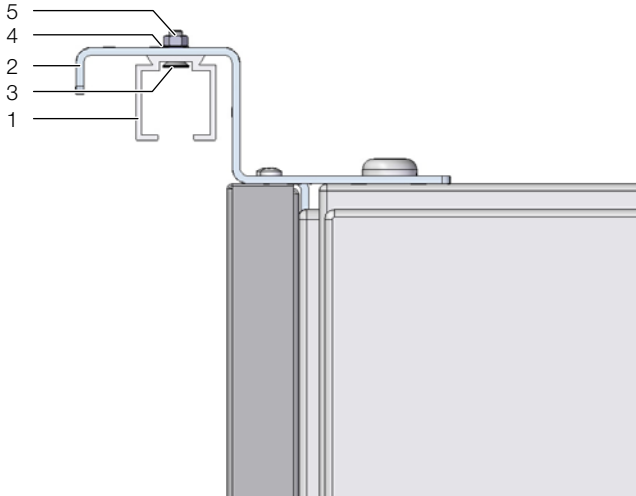

Fig. 15: Fastening the guide rail
- 3 Fastening screw and nut (fig. 15)
- Fasten the guide rail over its complete length with M5 x 14 mm countersunk screw and M5 nut to the fastening strip (fig. 15).